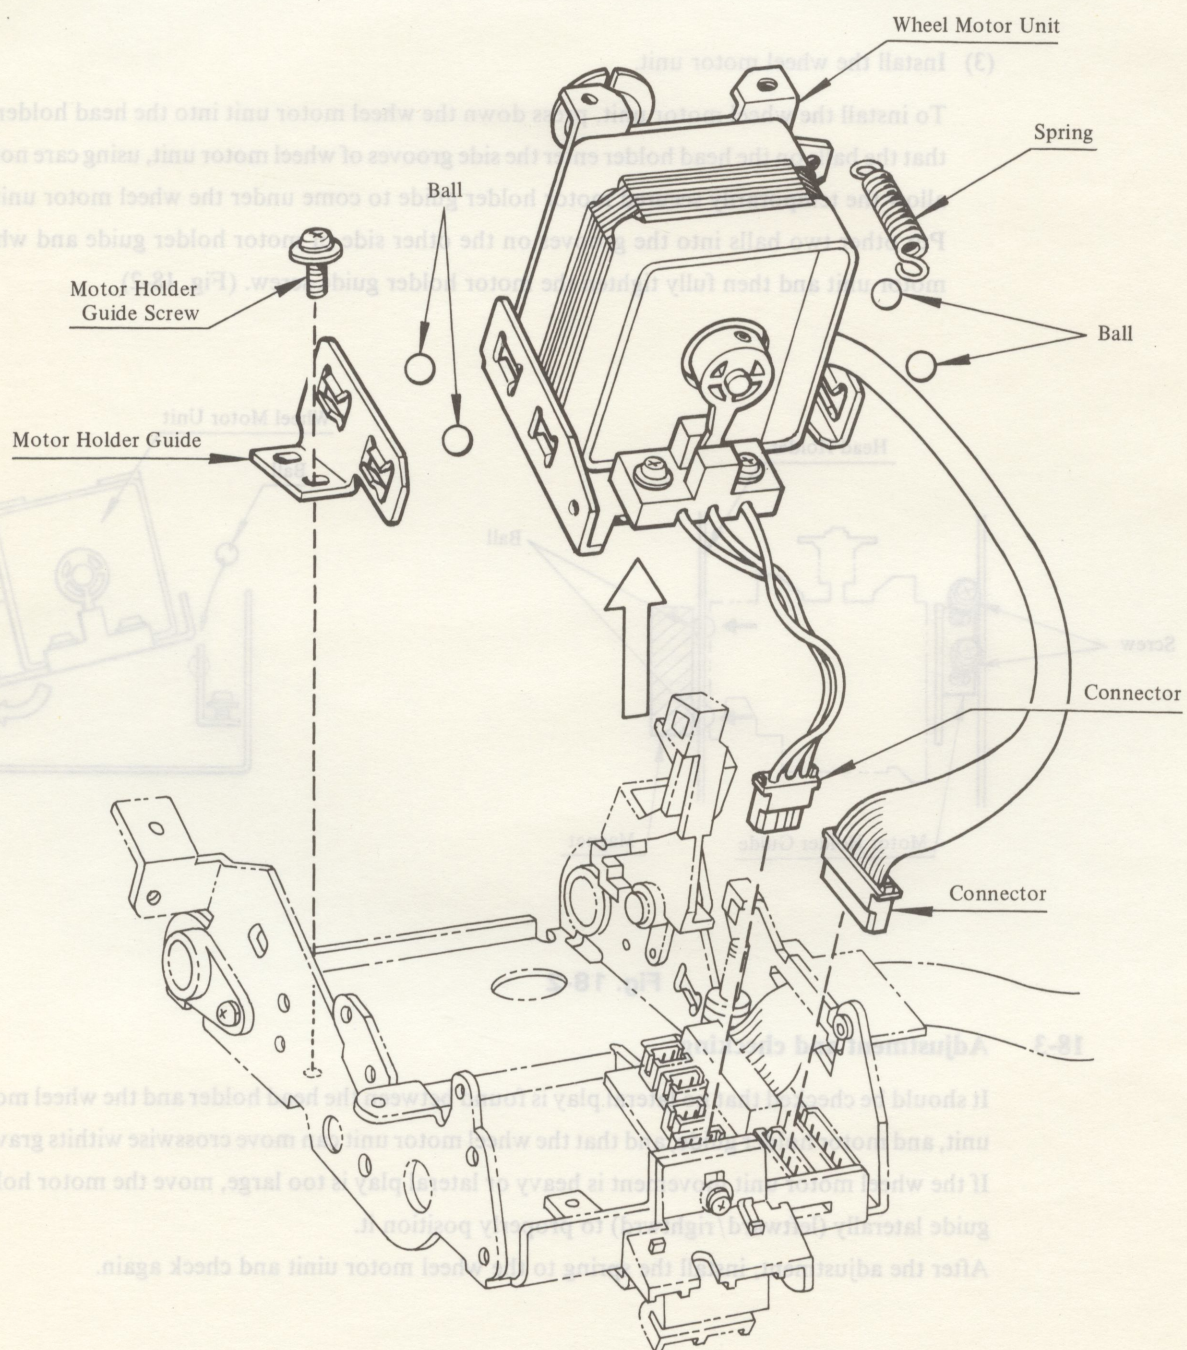

Fig. 18-1
The wheel motor unit can be separated together with four balls used to slide the wheel motor from the head holder. (Fig. 18-1)
- (2) Refer to Section 13 "Ribbon vibrator".
- (3) Remove the head indicator connector from the relay circuit board.
- (4) Remove the head indicator clamp screw and stopper plate, after remove the the head indicator to the head holder. (Fig. 18-1)